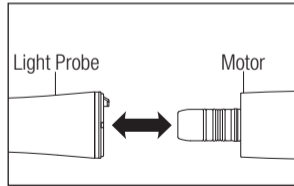

Fig. 1
- 1) Insert the light probe direct to the motor (Fig. 1). Screw the light probe until it clicks and locks into position.